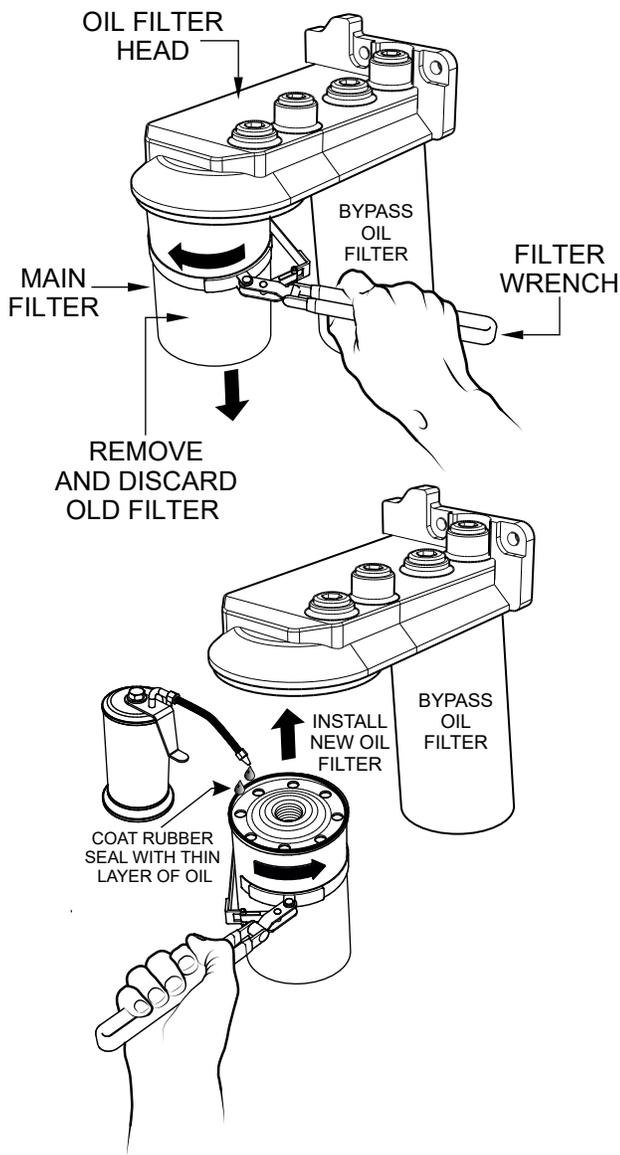

Figure 44. Engine Oil Filter Removal
- Clean the area around the **oil filter head** (Figure 44).
- Using an **oil filter wrench**, remove the **main engine oil filter** (Figure 44).
- Coat the rubber seal (gasket) surface of the new oil filter with clean 15W-40 engine oil (Figure 44).